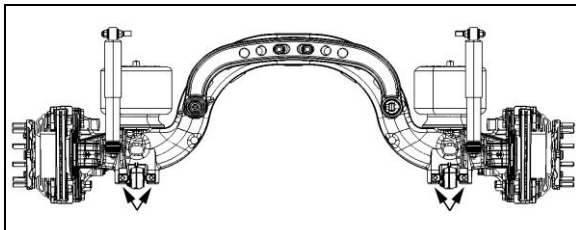

FIGURE 14: JACKING POINTS ON TAG AXLE 11023
4. Install jacks under tag axle jacking points to support the axle weight (Figure 14).